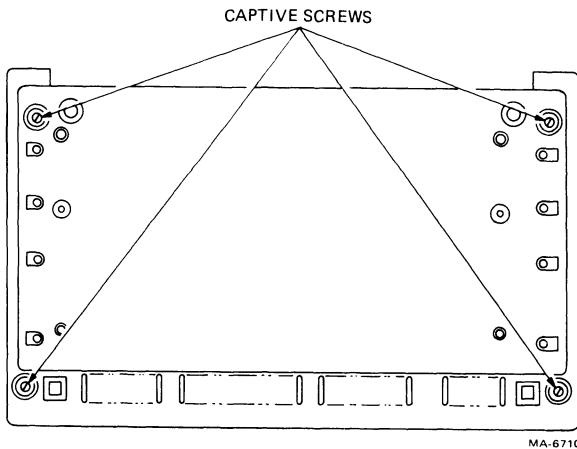

Figure 6-3 VK100 Terminal (Bottom View)
3. Loosen the four (4) captive screws at the corners of the terminal (Figure 6-3). The screws may be loosened with either a nutdriver or a blade-type screwdriver.